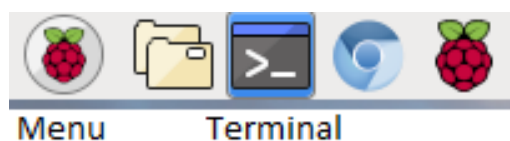

Figure 6: Terminal button
5. After connecting to the internet make sure your Raspberry Pi is up to date with the latest versions of Raspbian OS. To update the system open a terminal by clicking on the terminal symbol in the left upper corner (see figure 6).